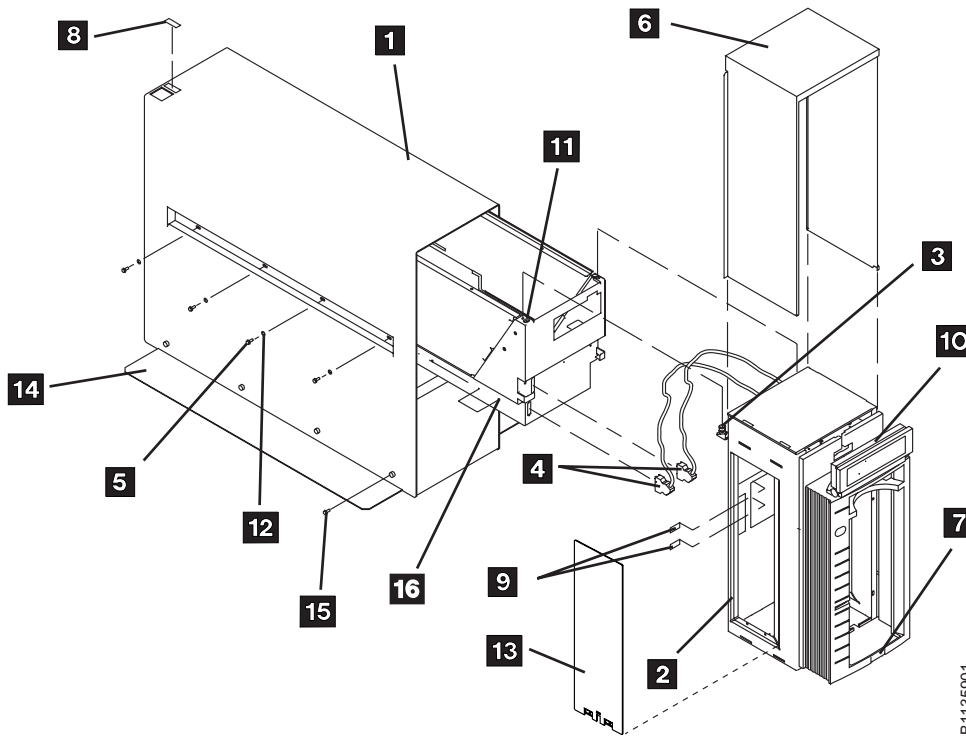

Figure 9-6. Desk Side Cover Installation for Model B11/E11 (RPQ 8B3191), or Model B11/E11/H11 (FC 2200)
2. Power OFF the failing device by using the power switch on the back of the drive enclosure. See **8** in Figure 9-6 on page 9-16 for location of the power switch.
- ___ 2. If a FID or ATTN message is available for the failure, go to “FID Entry Point” on page 1-8 to determine if it is an ACF failure. Then decide if removal of the ACF and drive from the desk side cover is warranted. If the ACF can be serviced while attached to the sleeve, remove the ACF cover **6** in Figure 9-6 on page 9-16 from the ACF and skip to step 11 on page 9-15. **Otherwise**, continue with the next step.
- ___ 3. Refer to Figure 9-6 on page 9-16. Remove the eight screws **5** and eight washers **12** from the desk side cover 1, four screws and washers from each side of the sleeve to allow removal of the drive for service.
- ___ 7. Refer to Figure 9-6 on page 9-16.
- ___ 3. Refer to Figure 9-6. With assistance, lift the 3590 drive (without the ACF attached), from the work surface and slide it into the front of the sleeve **1**.